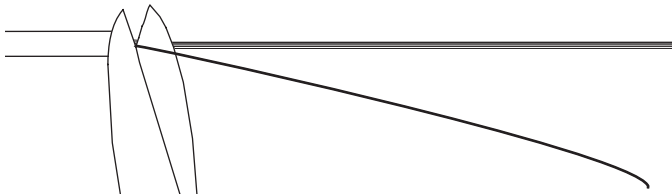

Figure 31
6.20 Using scissors, cut the fiber(s) to be accessed as close as possible to the appropriate end of the central tube (Figure 31). **USE EXTREME CARE TO CUT ONLY THE FIBER(S) TO BE ACCESSED.**